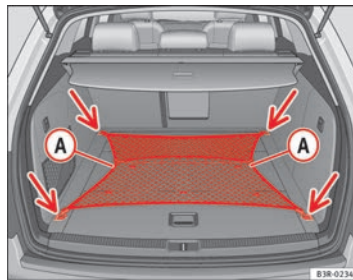

Fig. 118 Stretch net laid out
- Secure the luggage net to the four fastening rings -arrows- ⇒ fig. 118.